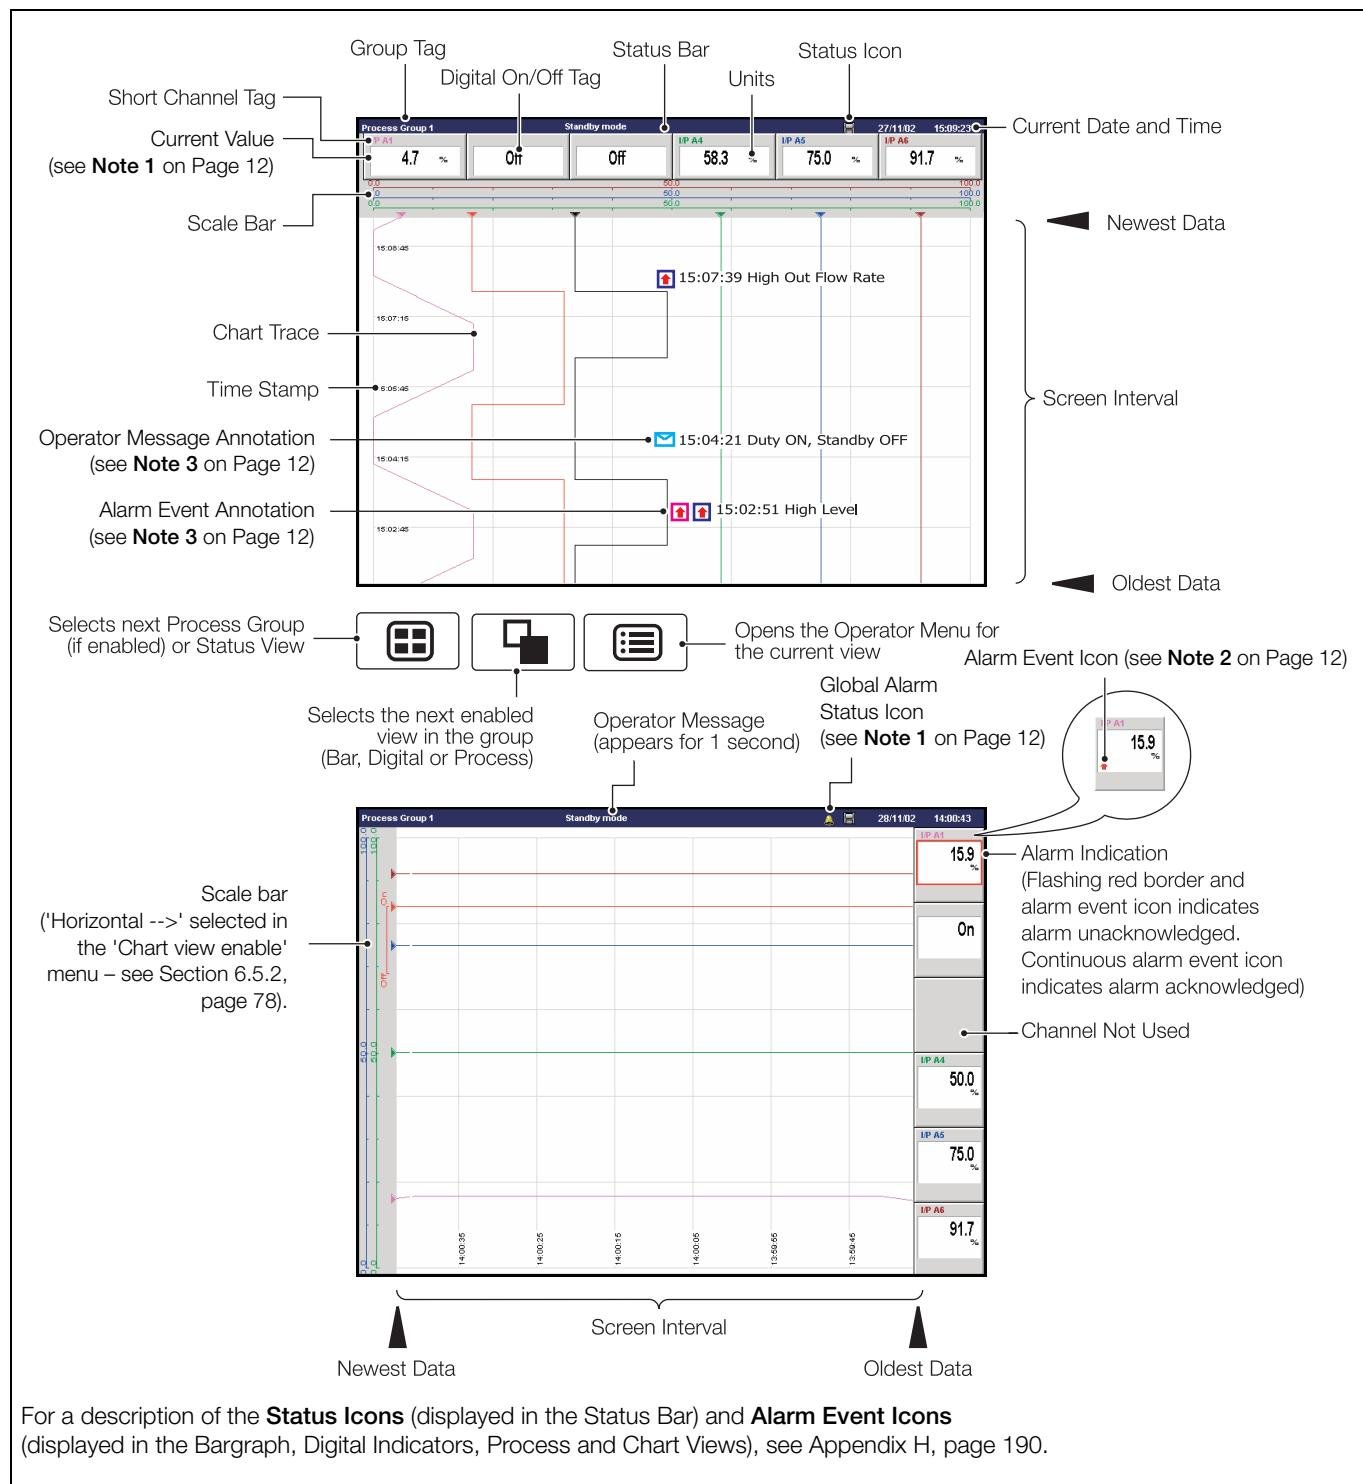

Fig. 4.3 Horizontal and Vertical Chart Views
If any alarm in any process group is active, the Global Alarm status icon (A) is displayed in the status bar – Fig. 4.3. If any active alarm in any process group is unacknowledged, the icon is surrounded by a red flashing border (A).